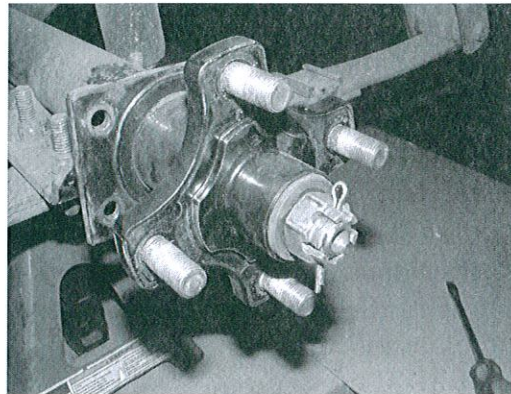

Fig. 4 Install splined hub
4. Install supplied hub on axle shaft using vehicle manufacturer's recommended spline lube. Retighten axle nut to vehicle manufacturer's specification and install cotter pin (See Fig. 4)